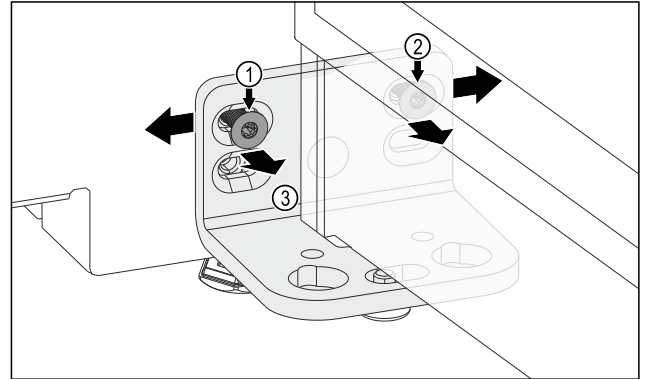

Fig. 12
- ▶ Loosen screw Fig. 12 (1) and screw Fig. 12 (2). For screw Fig. 12 (2) you need a short hex key.
- ▶ Slide the door with the hinge angle bracket Fig. 12 (3) to the left.
- ▶ Slide the door with the hinge angle bracket Fig. 12 (3) to the right.
- ▶ The door's end position is reached: Tighten screw Fig. 12 (1) and screw Fig. 12 (2).